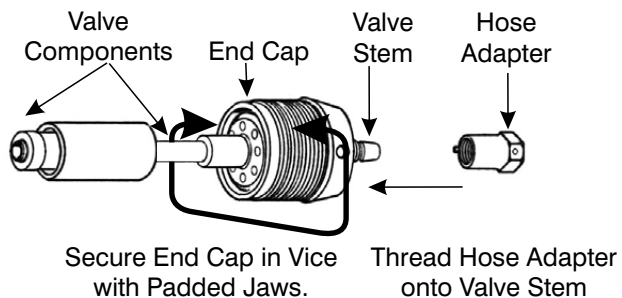

Figure 9-20. Attach Adapter to Valve Stem
6. Thread the Hose Adapter (15) onto the Valve Stem (8). Hand tighten the Hose Adapter to the Valve Stem. Refer to Figure 9-20.